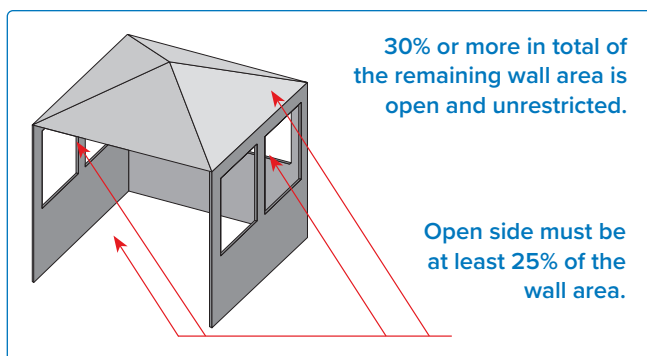
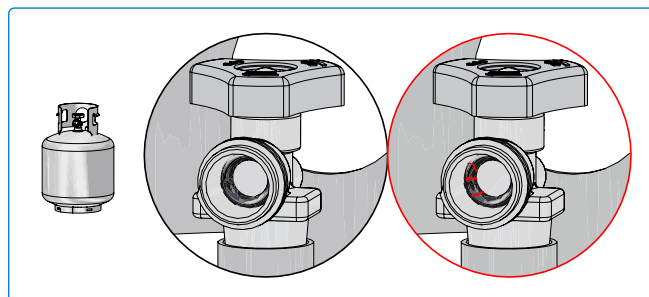

Fig. 4
Fig. 5
- Enclosure with three walls and an overhead cover, provided that 30% or more of the total horizontal perimeter is permanently open and unrestricted (**Fig 4 & Fig 5**).